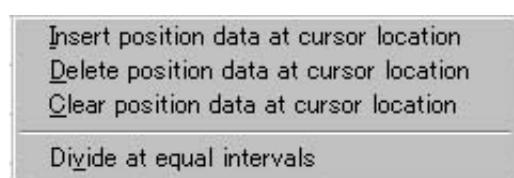

Fig. 5.14 Pop-up Menu
* The equal division function can also be implemented from the pop-up menu (Fig. 5.14) displayed by right-clicking the position data input area.